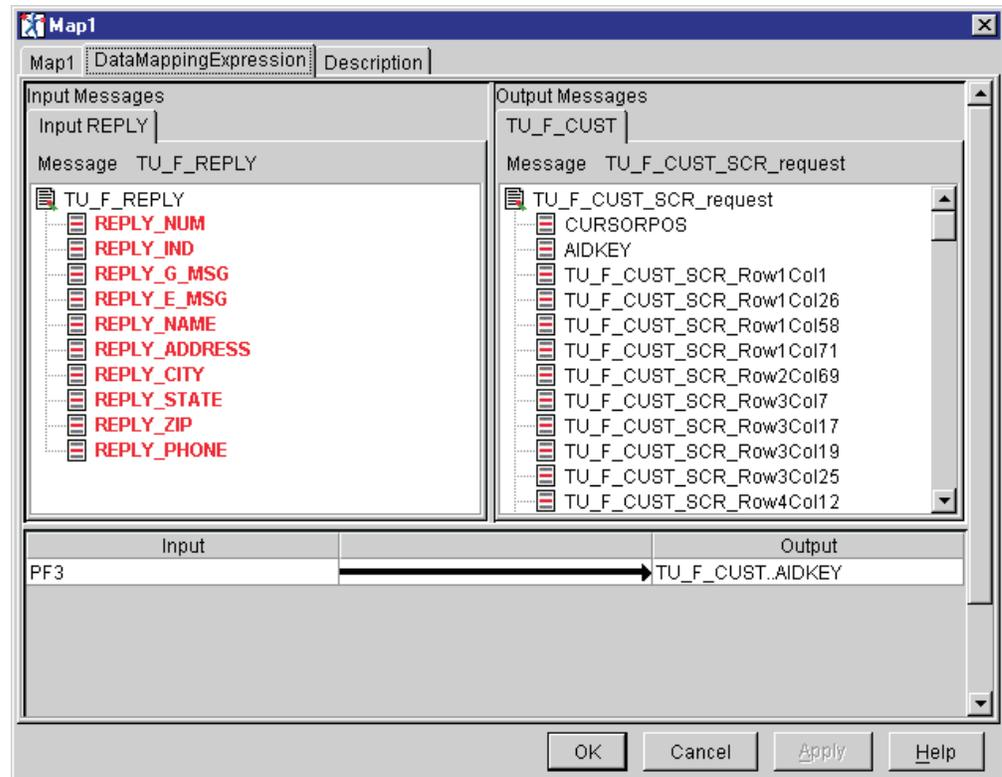

Figure 141. Mapping for Map1 node
- 1) Perform the mapping for the Map1 node as listed in Table 63 and shown in Figure 141. This map passes a PF3 key to the Customer information screen to logoff from the application and return to a blank CICS screen.